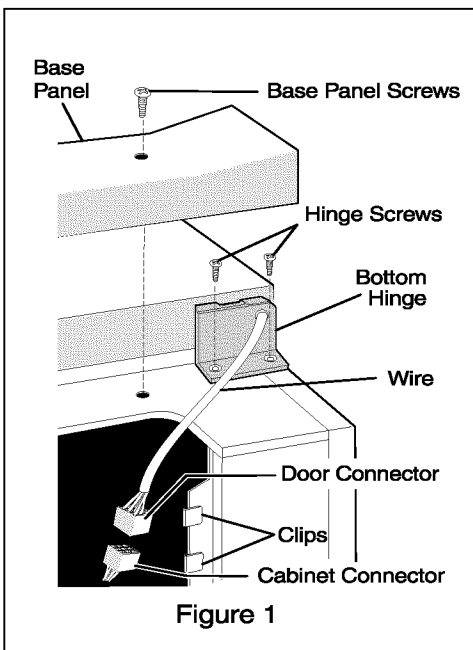

Figure 1
2. Remove two base screws and base panel. Remove wire from clips on bottom of cabinet. (Figure 1)
3. Unplug connector by holding the cabinet connector in place, and pulling door connector out. (Figure 1)
4. Remove bottom hinge screws. (Figure 1)
- **On upright models** with a defrost drain (Figure 1), remove the drain plug on the inside floor of the freezer by pulling straight out. To access the external drain tube on models with a base panel, first remove the two screws from the base panel. Locate the drain tube near the left center under the freezer. Place a shallow pan under the drain tube. Defrost water will drain out. Check pan occasionally so water does not overflow. A  $\frac{1}{2}$  inch garden hose adaptor can be used to drain the freezer directly into a floor drain. If your model is not equipped with an adaptor, one can be purchased at most hardware stores. Replace the drain plug when defrosting and cleaning are completed. If the drain is left open, warm air may enter the freezer.